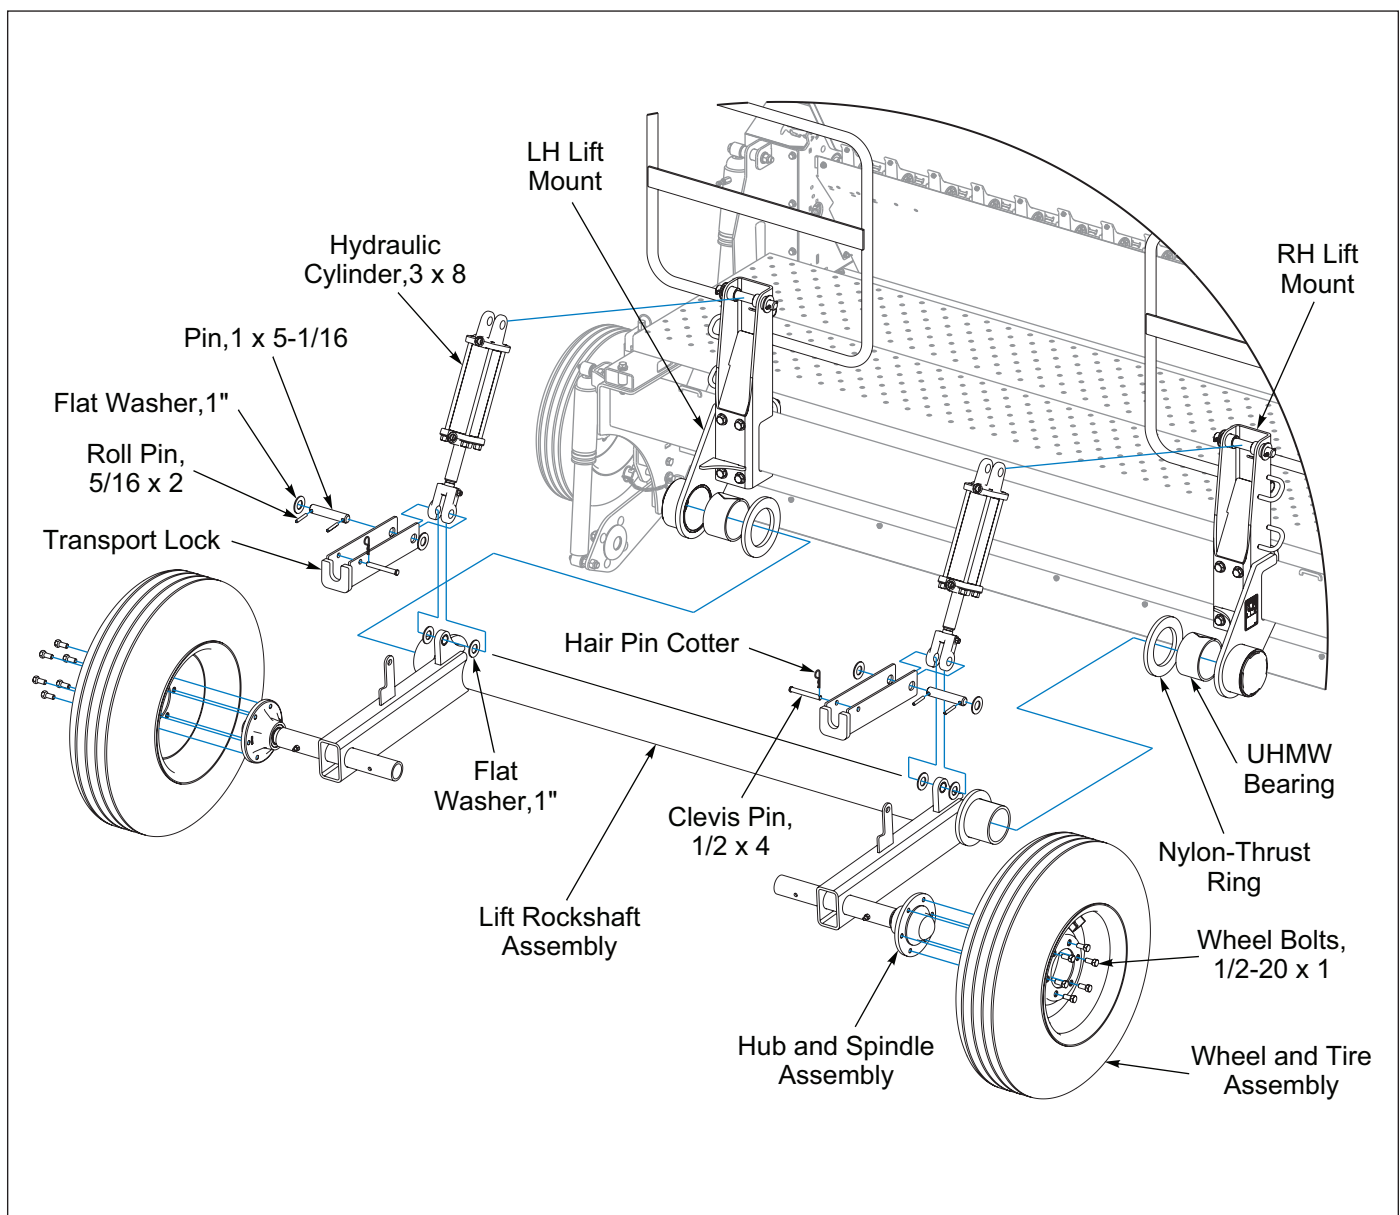

Figure 2-3: Rockshaft Installation
1. Loosen RH and LH Lift Mount Hardware so that they can be slid onto each end of the Lift Rockshaft Assembly. **See Figure 2-3.**